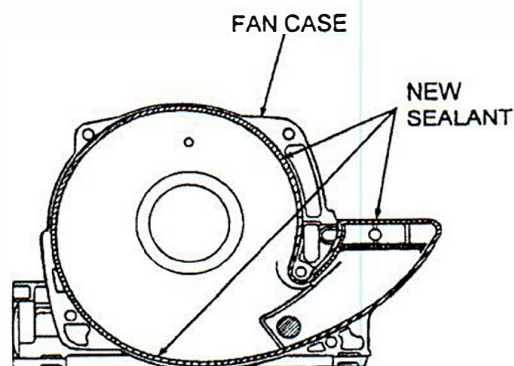

Figure 10. Fan Case Sealant Application
6. Prior to the reassembly of fan case, clean old sealant from joining surfaces and apply new silicone sealant, P/N T117 as shown in Figure 10.